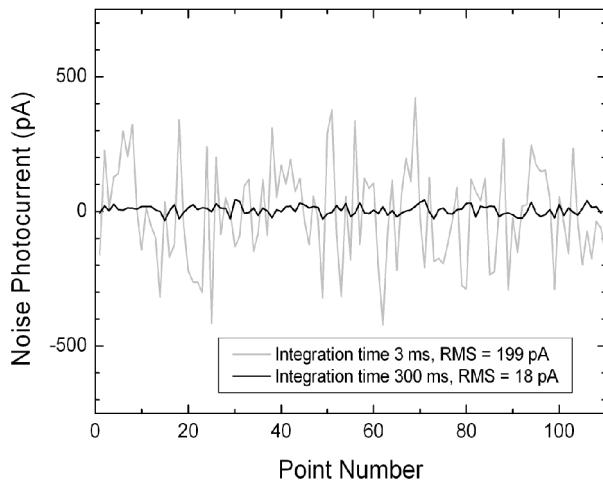

Figure 6 Noise photocurrent at integration times of 300 ms (black trace) and 3 ms (grey trace)
- The time constant of the lock-in integration, see Figure 6.
As evident from Figure 6 and Figure 7, an increase of the lock-in integration time by a factor of 100 decreases the noise floor by a factor of 10 and thus improves the dynamic range by 20 dB.